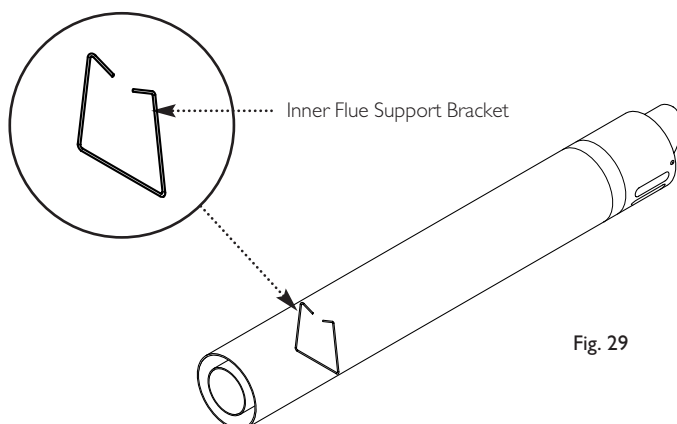

Fig. 29
**IMPORTANT:** Check all measurements before cutting. When cutting ensure the cut does not interfere with the inner flue support bracket (Fig. 29).